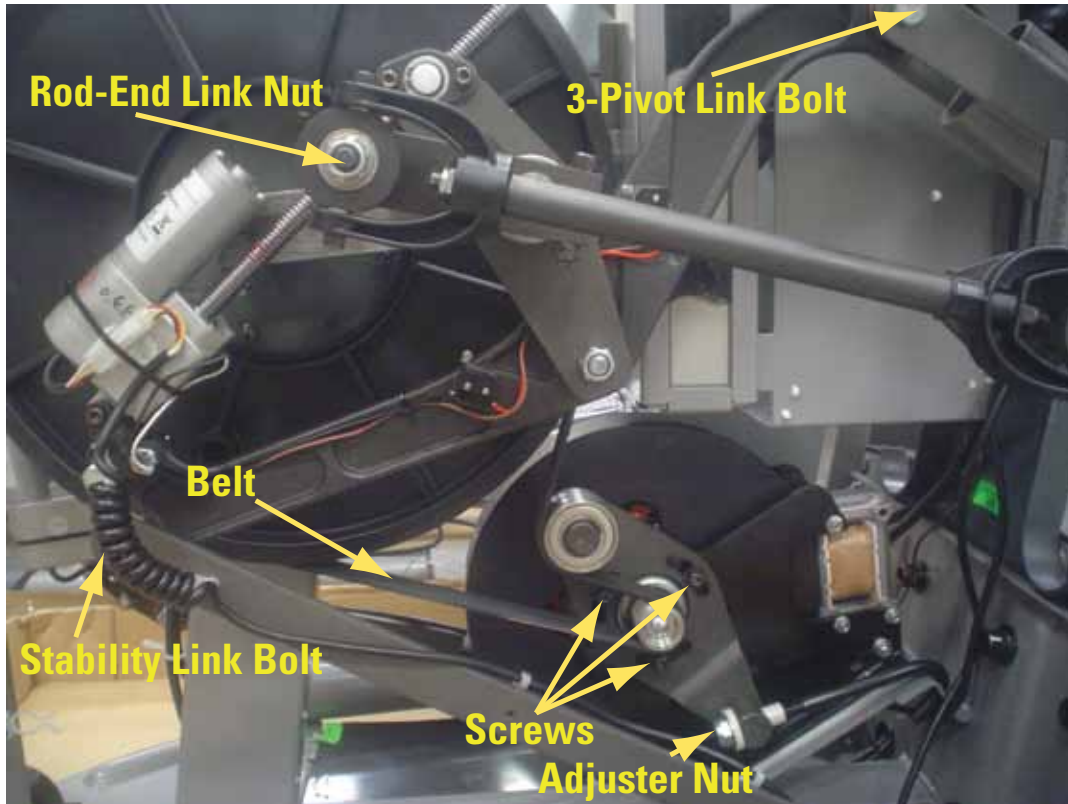

Figure 1.11
1. Remove the top cover and left shroud to access the inside of the unit. Figure 1.11 shows the belt tensioner assembly.
6. Locate the three (3) hex screws that hold the belt tensioner assembly to the brake assembly. Note the position of each screw by putting a mark on the plate.
10. Rotate the tensioner plate so that each screw is aligned with its mark on the plate. Tighten the three (3) screws.